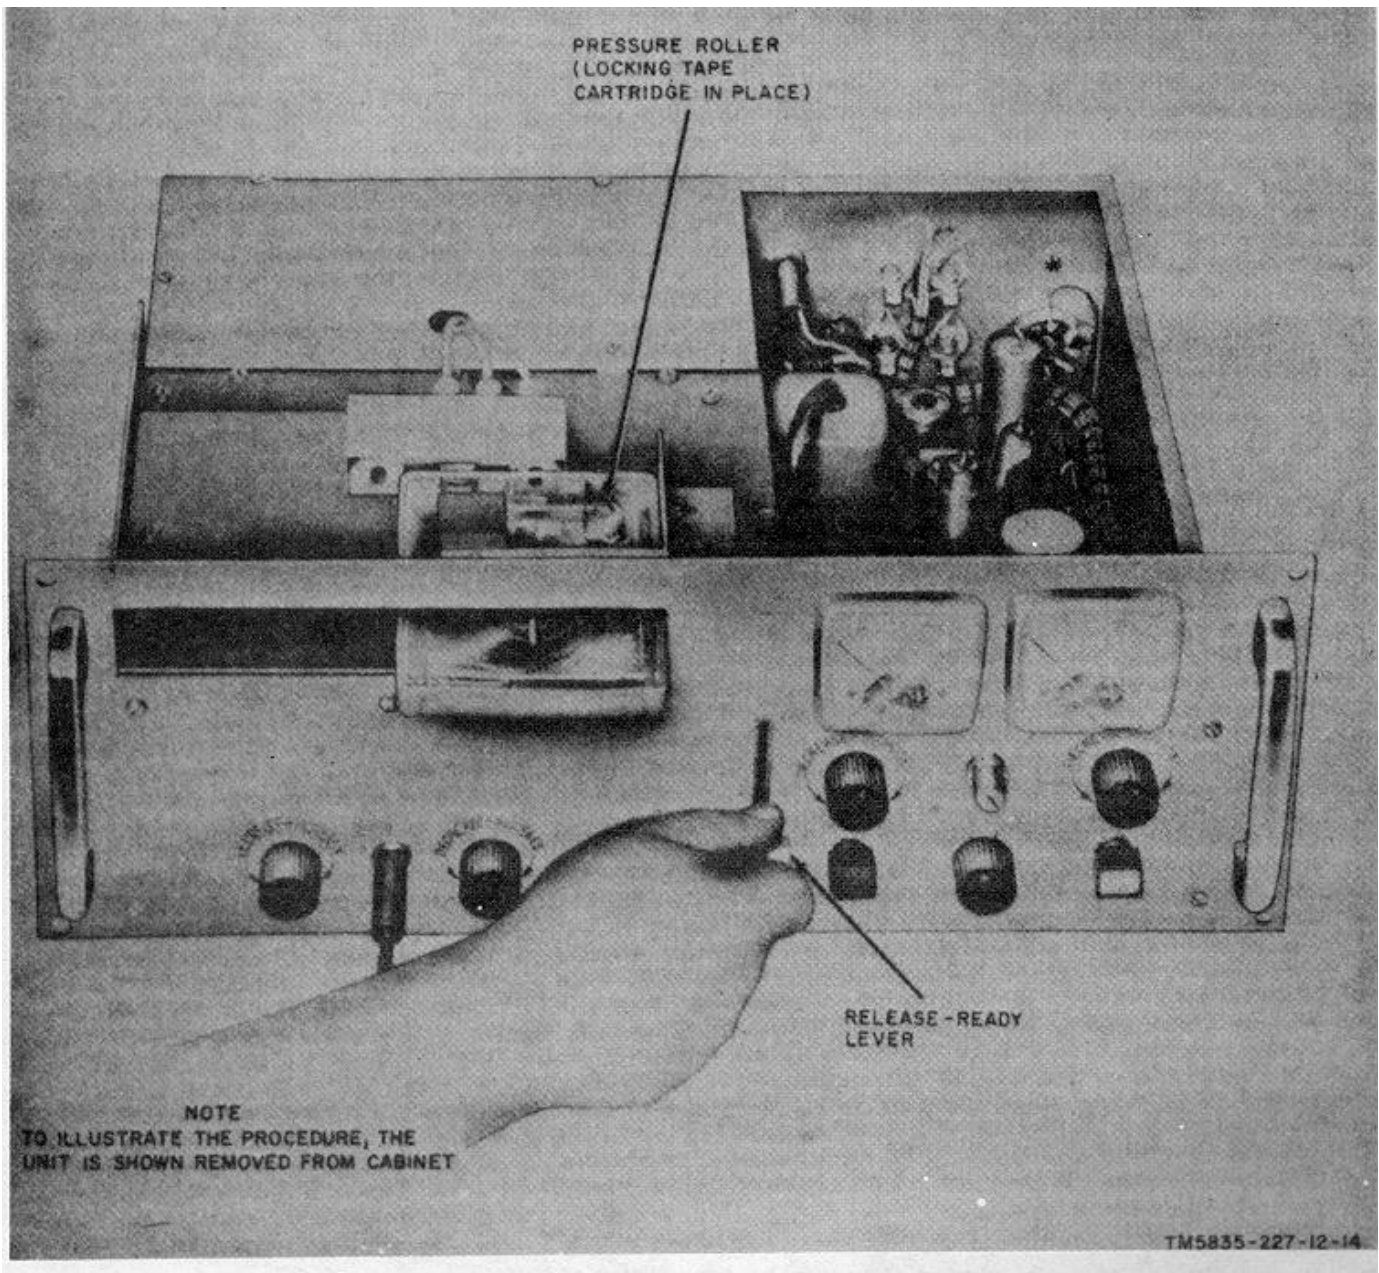

Figure 20. Establishing ready condition.
- (2) Set the RELEASE-READY lever to READY: the STOP lamp lights (fig. 20).